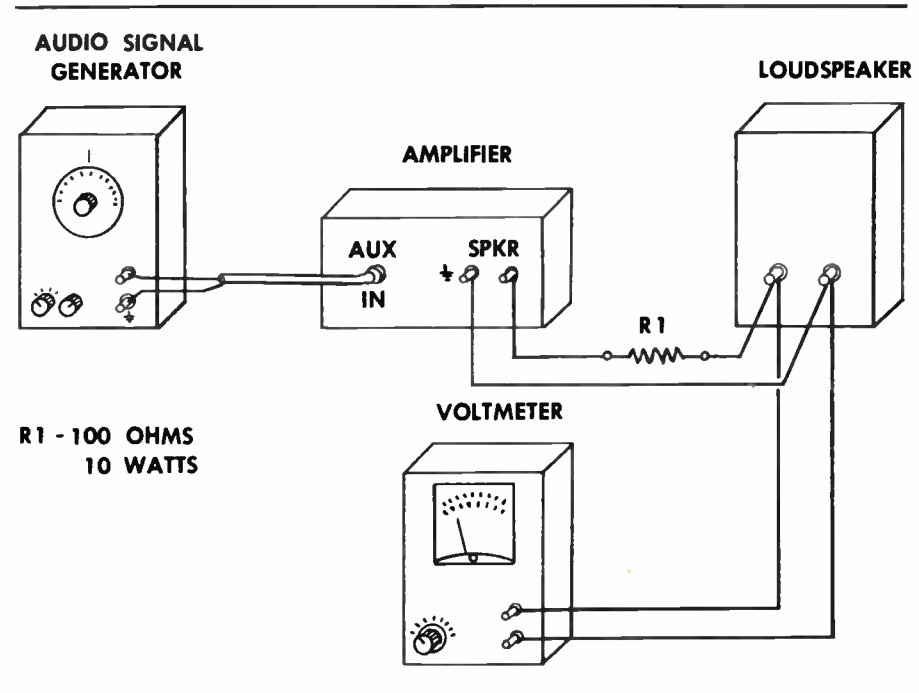

FIGURE 5: Speaker Resonance Test Set-Up
a. Check cabinet resonance with an audio signal generator, amplifier, voltmeter and 100 ohm resistor (see Fig. 5 for wiring details and instructions).